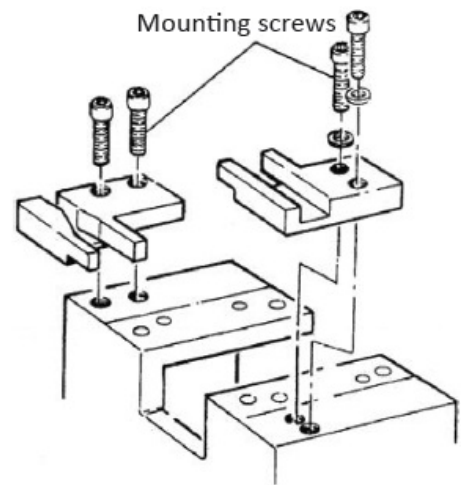

Fig. 6
- Figure 6 shows the correct location of each guide.